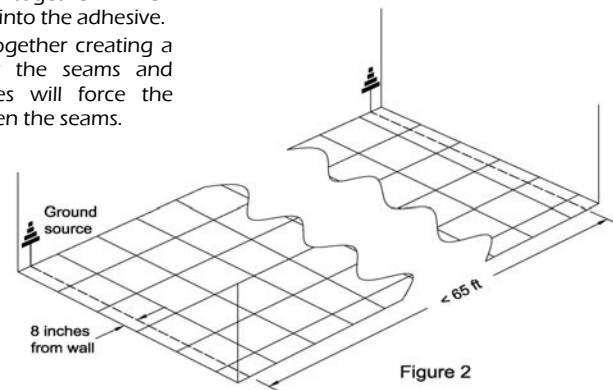

Figure 2
- c. A copper grounding strip is placed across the shorter width of the area approximately 8 inches (20.3 cm) from the wall. The copper grounding strips should extend up the wall to a known ground as seen in Fig. 2.